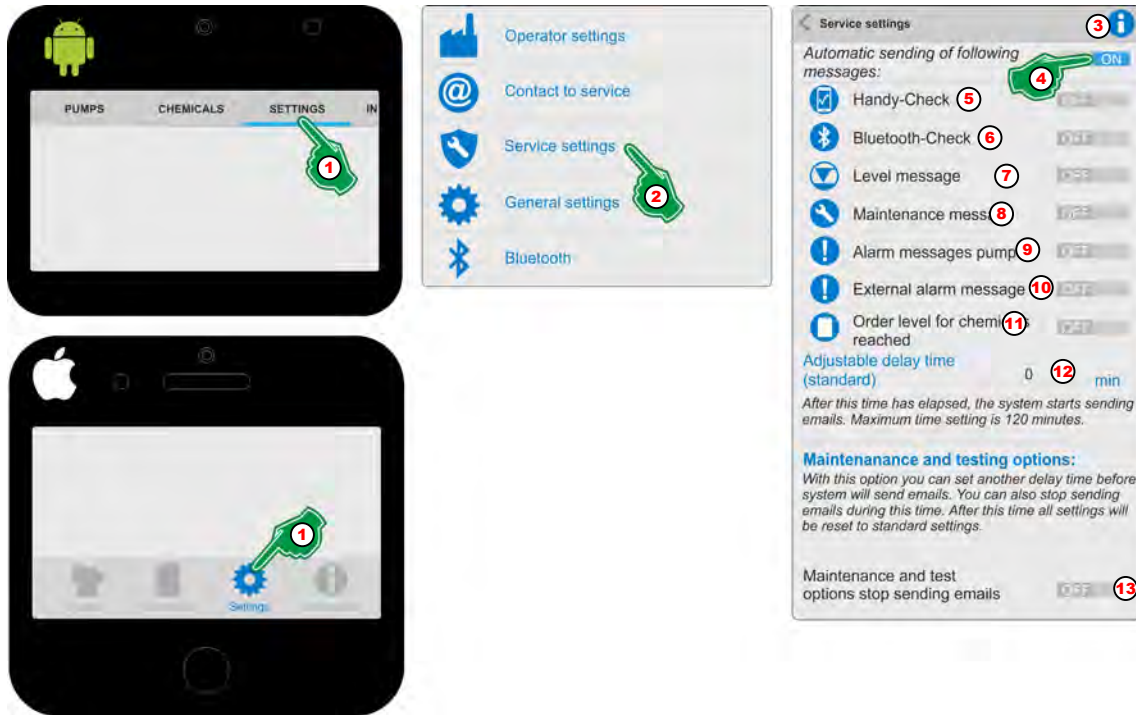

Fig. 44: Overview 'Service Settings'
When this function is switched on (Fig. 44, Pos. 4) the automatic recall of all options listed below is activated.
The time interval of the automatic call (Fig. 44, Pos. 12) is used with the exception of the Handy-Check option (Fig. 44, Pos. 5), below the options. The Handy Check function (Fig. 44, Pos. 5) has a specially adjustable time interval (see  'Mobile phone check'  on page 71).
1. ▶ Select [Settings] (Fig. 44, Pos. 1).
2. ▶ Select [Service Settings] (Fig. 44, Pos. 2).
3. ▶ With the selection of the [Info] Symbol (Fig. 44, Pos. 3), the display will be:
4. ▶ Turn on 'Automatic sending of following messages' (Fig. 44, Pos. 4) to confirm the notification window.
All following options (Fig. 44, Pos. 5 to 13) can now be set individually.
5. ▶ Delay time (Fig. 44, Pos. 12), set from when a message is sent after a system event (0 min = immediately)
6. ▶ To prevent emails from being sent during maintenance or system tests, use the switch (Fig. 44, Pos. 13) to **ON**.